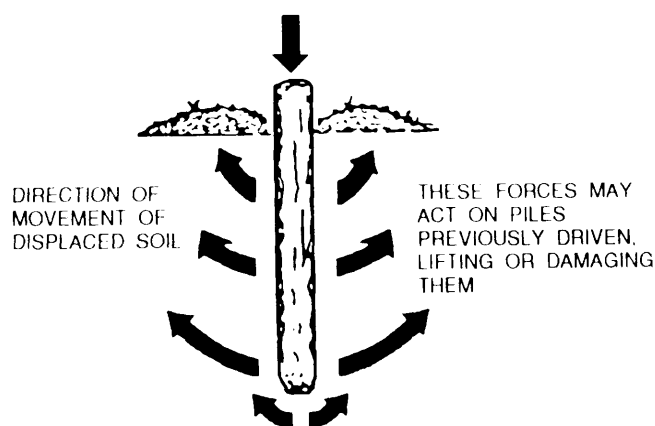

Figure 12-68.—Displacement of clay soil caused by driving solid piles.
2. Clay soils are hard to compress in pile driving; hence, a volume of soil equal to that of the pile will usually be displaced (fig. 12-68). The ground will heave between and around the piles. Driving a pile alongside those previously driven will frequently cause those already in place to heave upward. If the piles are driven through a clay stratum to firm bearing beneath, the heave may destroy the contact between the tip of the pile and the firm stratum. Such cases may be detected by taking a level reading on the top of the piles previously placed. Piles which are raised appreciably should be redriven to a firm bearing. Soil displaced by the pile may cause enough lateral force to move previously driven piles out of line.